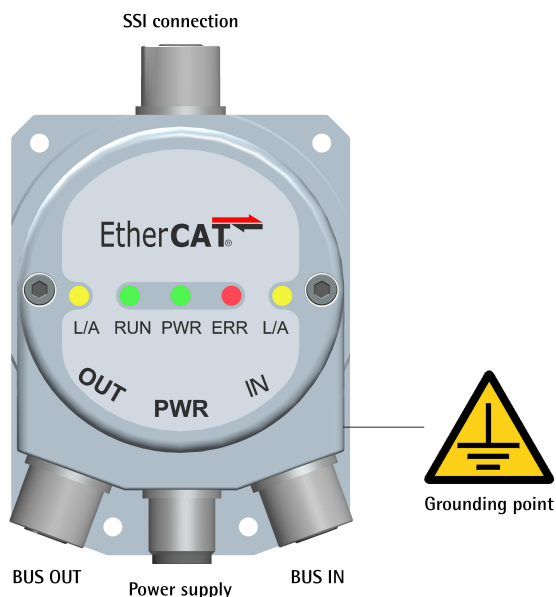

Figure 4
4.1 SSI connector (Figure 4)
4.2 EtherCAT interface and power supply connectors (Figure 4)
To minimize noise connect properly the shield and/or the connector housing and/or the frame to ground. Connect properly the cable shield to ground on user's side. Lika's EC- pre-assembled cables are fitted with shield connection to the connector ring nut in order to allow grounding through the body of the device. Lika's E- connectors have a plastic gland, thus grounding is not possible. If metal connectors are used, connect the cable shield properly as recommended by the manufacturer. Anyway make sure that ground is not affected by noise. It is recommended to provide the ground connection as close as possible to the device. We suggest using the ground point provided in the cap (see Figure 4, use 1 TCEI M3 x 6 cylindrical head screw with 2 tooth lock washers).